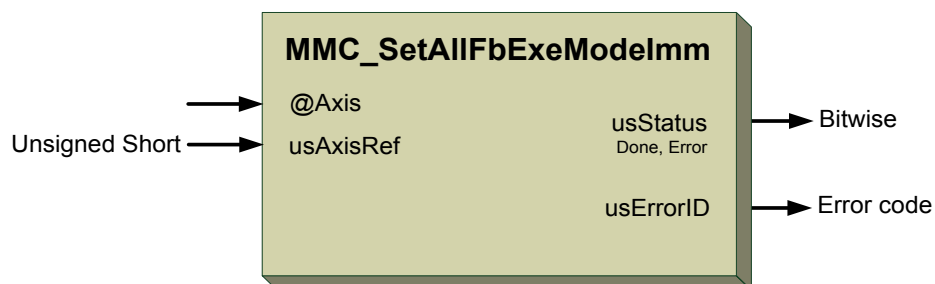

Figure 8-53: MMC\_SetAllFbExeModelmm function
**Figure 8-53** describes the function for MMC\_SetAllFbExeModelmm.